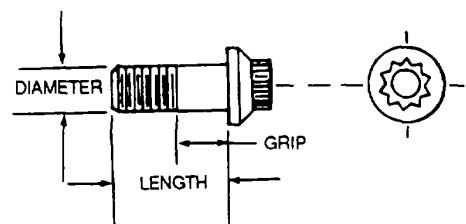

Figure 2-6. External Wrenching Bolt
*i. External Wrenching Bolts.* External wrenching bolts (12 point), as shown in figure 2-6, are high-strength bolts used primarily in tension applications. They are furnished with either drilled or undrilled heads. The radius under the head of this bolt requires a high tensile countersunk washer (MS20002) to be used in conjunction with this bolt. Do not substitute a common aircraft bolt for a high tensile bolt.